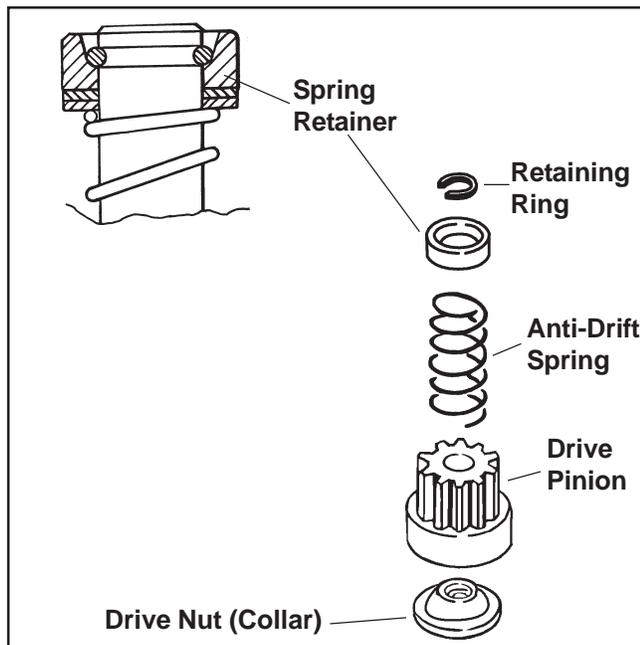

Figure 7-12. Drive Components.
Every **three years** or **150 hours** of operation, clean and lubricate the splines on the starter drive shaft. If the drive pinion is worn, or has chipped or broken teeth, it must be replaced. See Figure 7-12.
2. Referring to Figure 7-12, grasp the spring retainer and push it toward the starter, compressing the anti-drift spring and exposing the retaining ring.